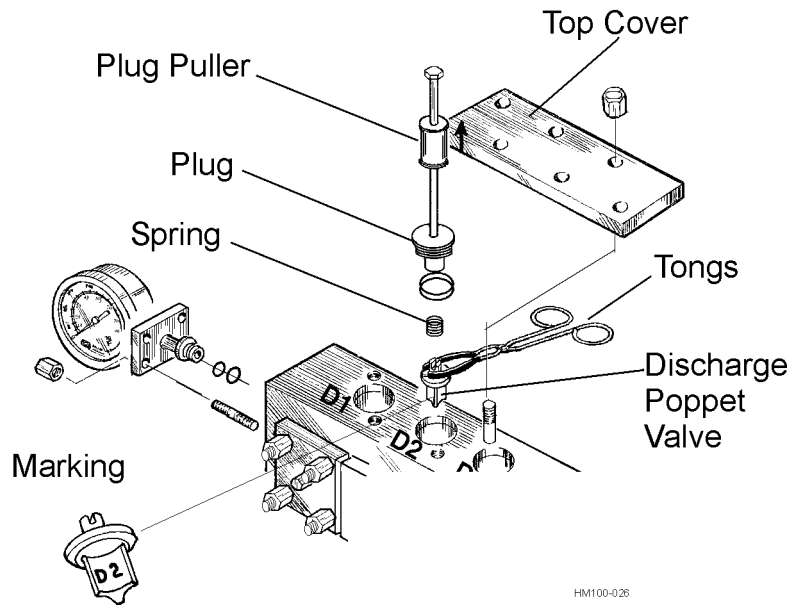
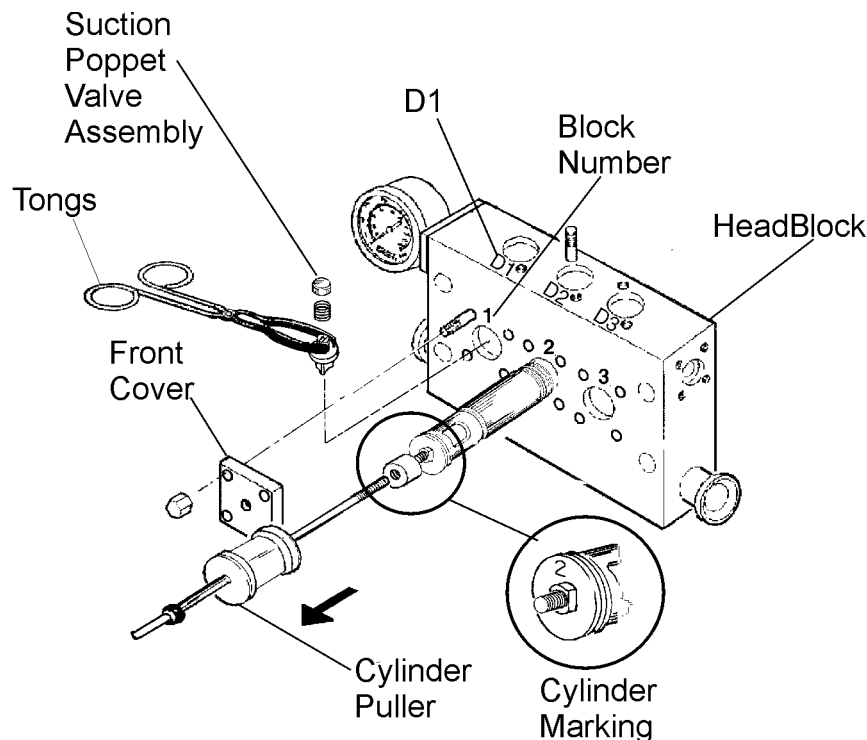
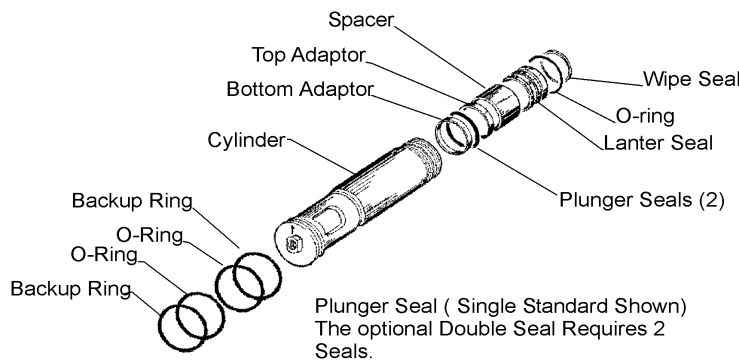

Figure 31 Remove Homogenizer Valves
Figure 32 Front Cylinder Block
Figure 34 Cylinder Components
11. Remove top cover of headblock. See Figure 31.
12. Use top plug puller to remove top plugs. (Screw in end of puller and use slide hammer to pull top plug from headblock. See Figure 31)
13. Using tongs carefully lift springs and discharge valves out of headblock. See Figure 31
1. Remove the front covers from each cylinder. (Four nuts, each) See Figure 32.
NOTE: Cylinders, valves, plungers and seal packing are marked with matching numbers to allow placement in the proper cylinder hole in the headblock. (See Figure 31, Figure 32, and Figure 34)